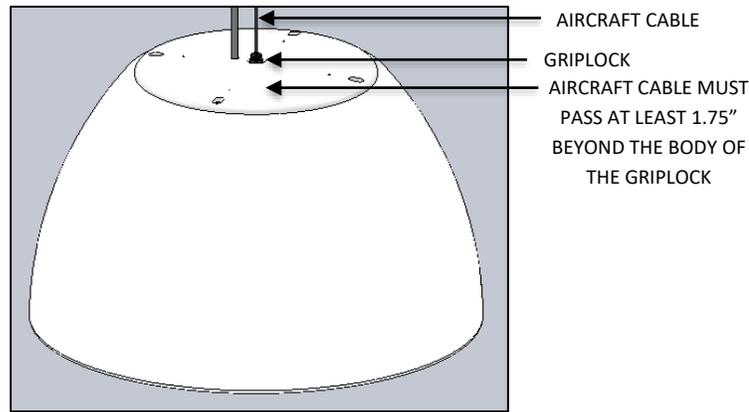

FIG. 16 – AIRCRAFT CABLE INSTALLATION
6. Raise the fixture and feed the AIRCRAFT CABLE into the GRIPLOCK by pressing the plunger of the GRIPLOCK and insert the AIRCRAFT CABLE into the body of the GRIPLOCK and adjust fixture drop to desired height as shown in FIG. 16.